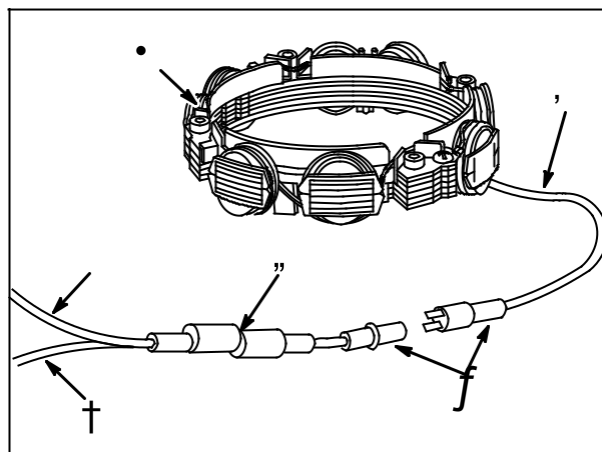

Fig. 19
The battery is not used for the lights, so lights are available even if the battery is disconnected or removed. Current for the lights is available when the engine is running. The output varies with engine RPM, so the brightness of the lights changes with engine speed. Stator assembly (1), **Fig. 19**.